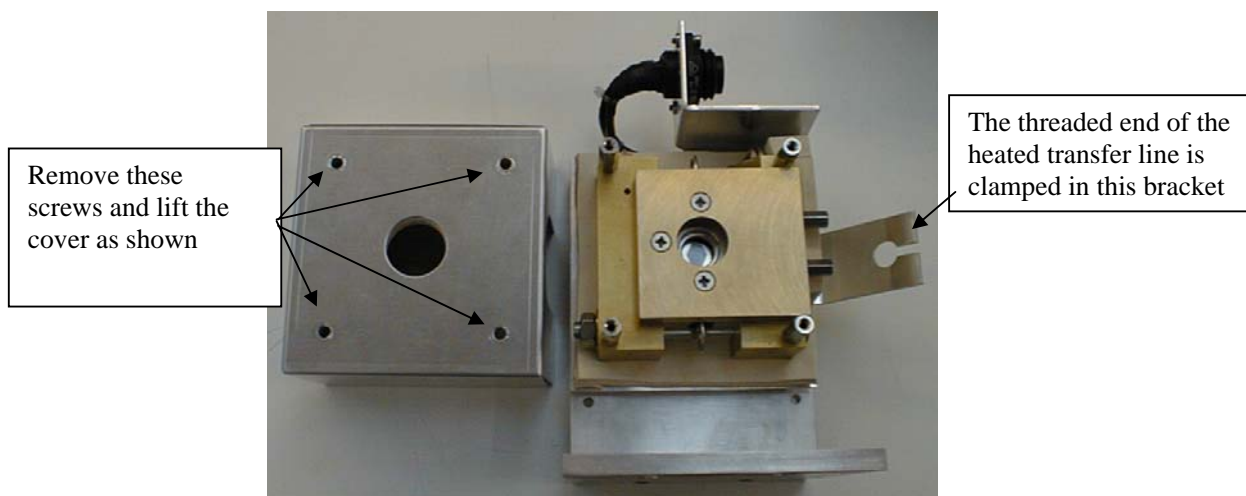

Figure 3.4 Flow cell with the cover removed
2. Remove the front cover from the flow cell by removing the four screws located at each corner of the cover (Figure 3.4)
4. Slacken the nut on the end of the heated transfer line and slip the tubes into the slot in the cell bracket. Take up the slack in the tubes by pulling them through the line and insert the threaded end of the heated transfer line into the bracket and tighten the nut (Figure 3.4).